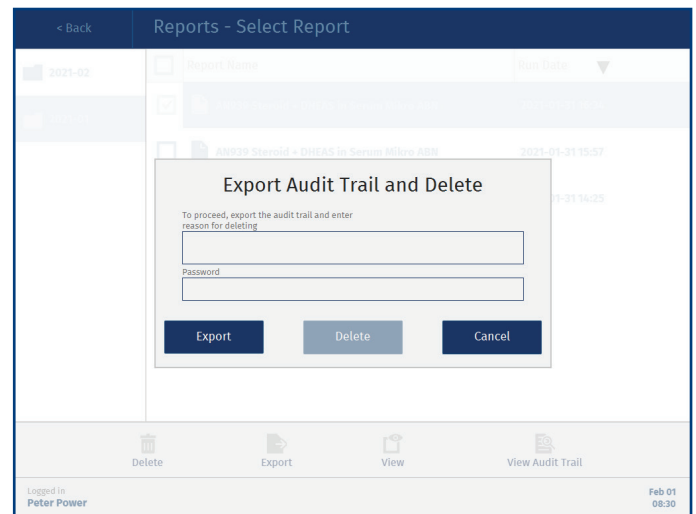

Figure 38. The Export Audit Trail and Delete dialog.
1. Select the report and press **Delete**. The **Export Audit Trail and Delete** dialog opens; see Figure 38. Note that only one report at a time can be deleted.